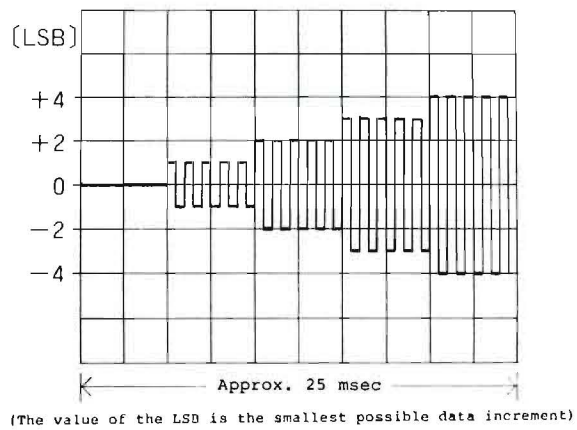

Fig. 8 Input data (16 bits)
5) Conversion characteristics of the PEM DD converter (Fig. 8)